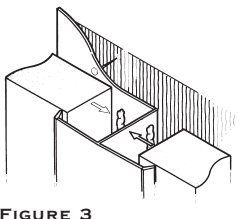

FIGURE 3
4. Slide next insulation board into Clip Strip flange and fasten through first layer into framing members (Figure 3).